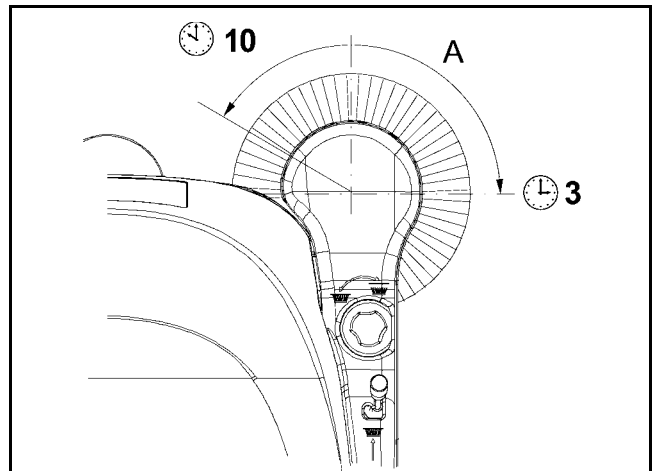

Figure 7
- Check that the side broom print is as shown in the figure (A, Fig. 7): the side broom must touch the ground along a circle arc ranging from “10 o'clock” position to “3 o'clock” position.